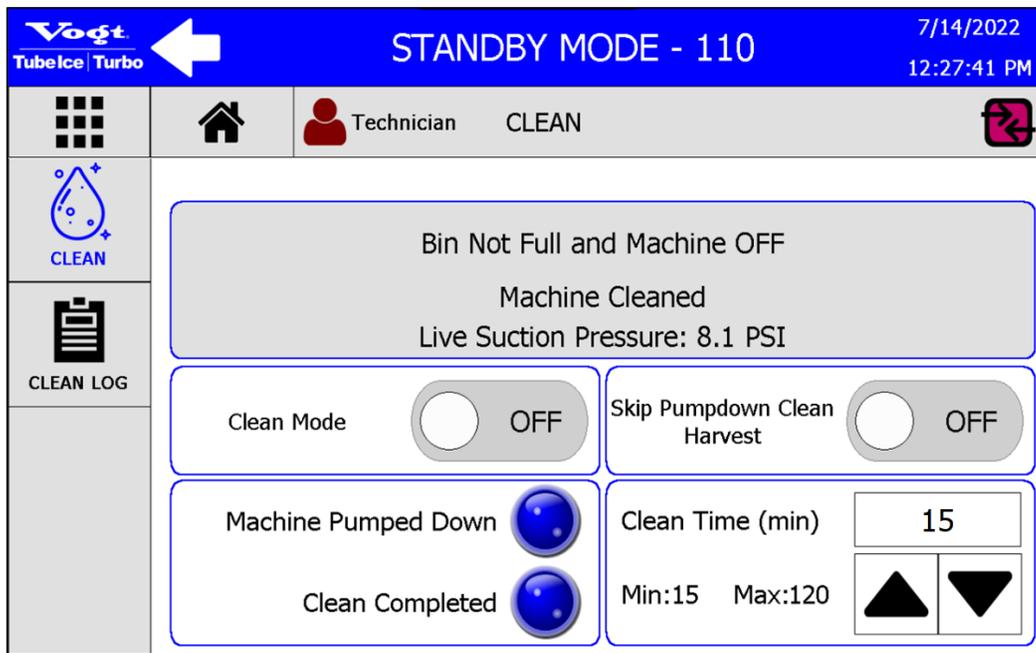

Figure 64: CLEAN Screen – Clean Completed
13. When the machine has completed a cleaning cycle, the icon next to **Clean Completed** will turn blue and the machine will automatically turn off the **Clean Mode**. See Figure 64. Repeat cleaning if necessary.